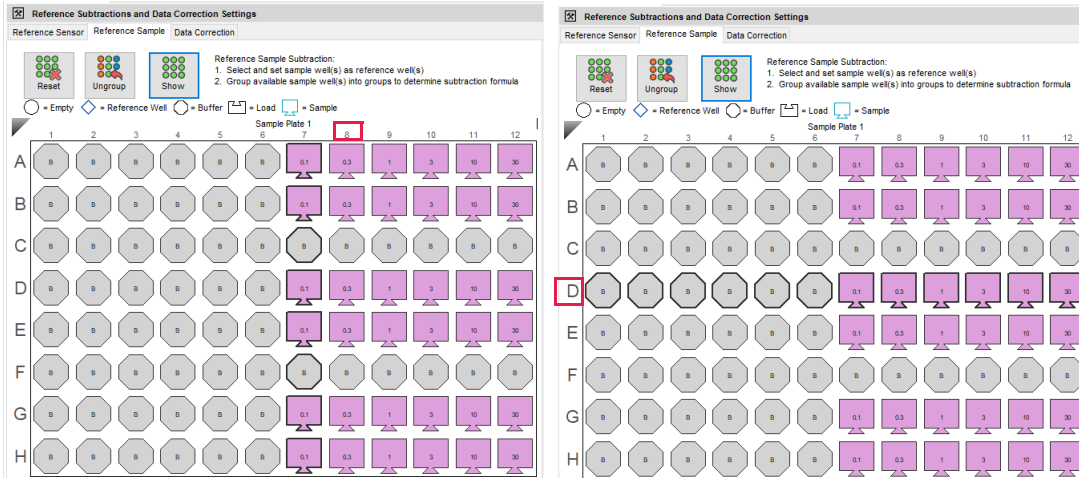

Figure 4-45: Selecting a Single Row or Column
- To view a single row or column of biosensor data, click the number above the column or the letter next to the row in the biosensor tray or sample plate (Figure 4-45).